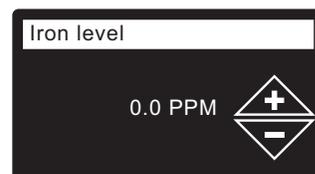

FIG. 24
15. **IRON LEVEL** Press the UP (▲) or DOWN (▼) buttons to set the value for iron in your water (See Figure 24).